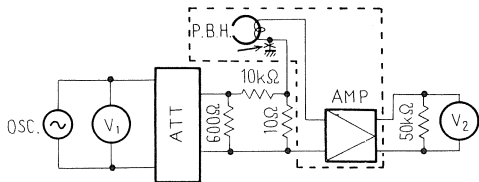

Fig. 13
1. Unsolder the ground (earth) lead from the playback head and make the connection as shown in Fig. 13.